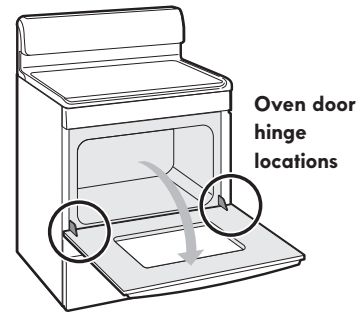

Figure 44: Door at horizontal position
3. Fully open the oven door, horizontal with floor (Figure 44).